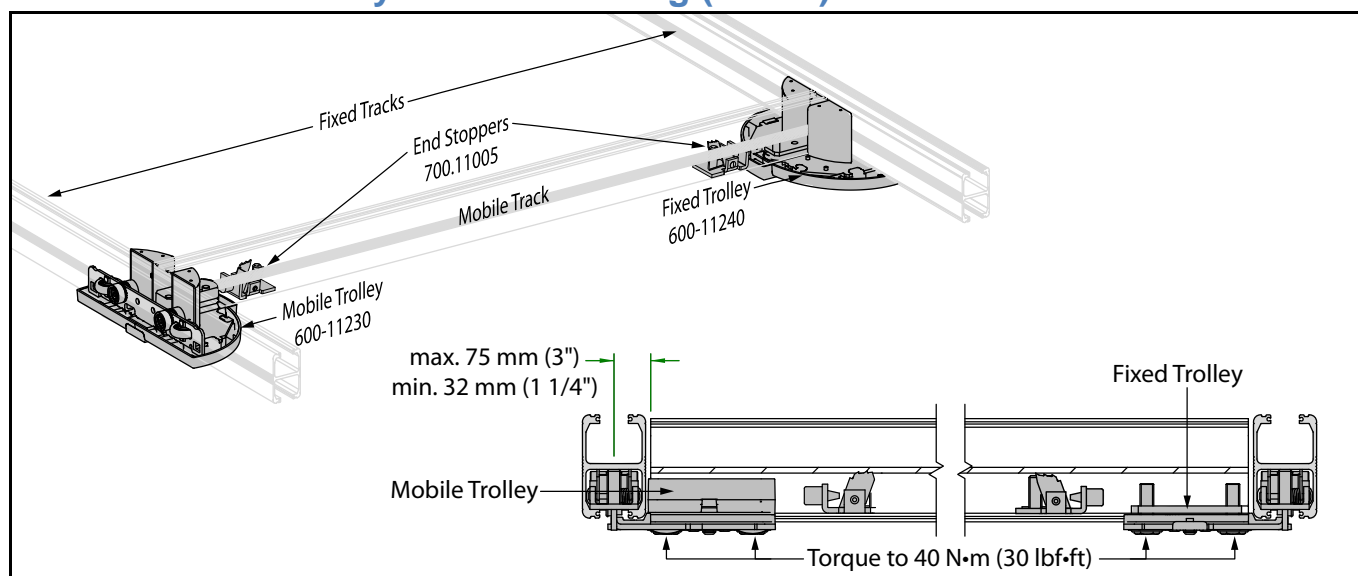
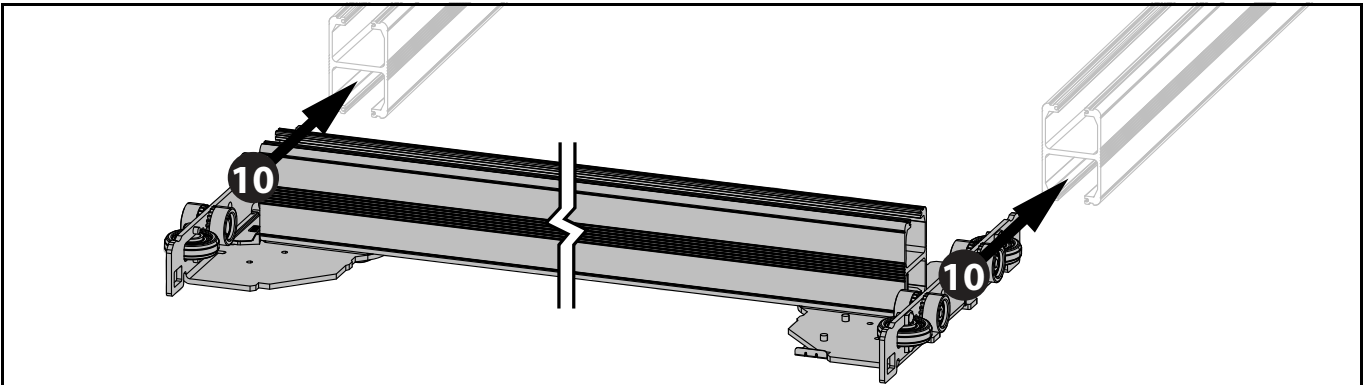

Fig. 5
Fig. 9
- 10) Insert the mobile track assembly onto the fixed tracks (see Fig. 9) conforming to distance requirements as shown in Fig. 5.